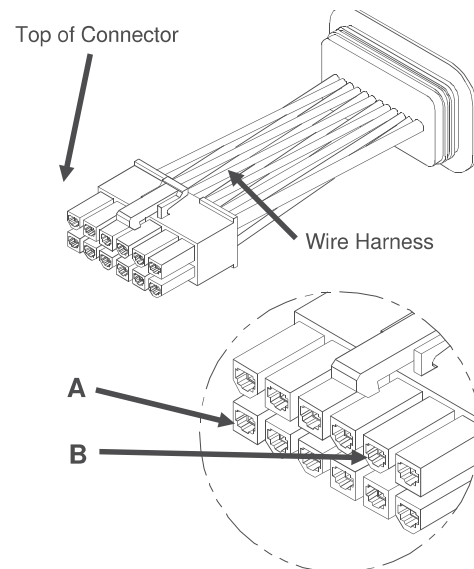

Figure 4
9. Check for 12 VDC between points A and B (Figure 4).